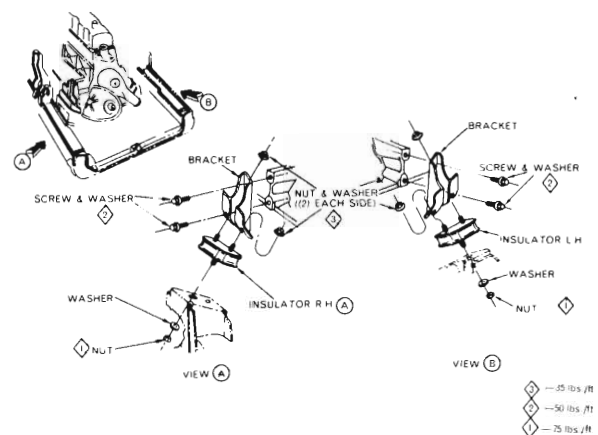

Fig. 5 - Front engine mountings
(20) Remove the front engine mount bolts (Fig. 5) and disconnect (and cap) the convenient AC tube connection. **DO NOT BEND TUBES.**
(21) Lift the engine from the engine compartment holding the AC compressor hoses carefully away from the body (where equipped) and install on engine repair stand.